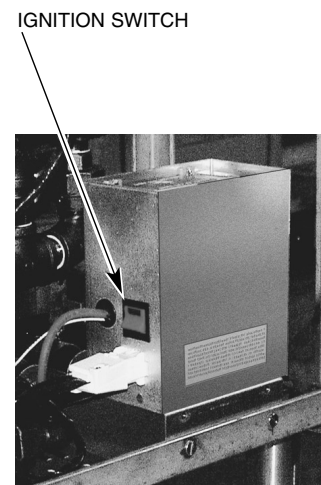

Fig. 6
6. Make sure the Ignition Switch is ON (Fig. 6).